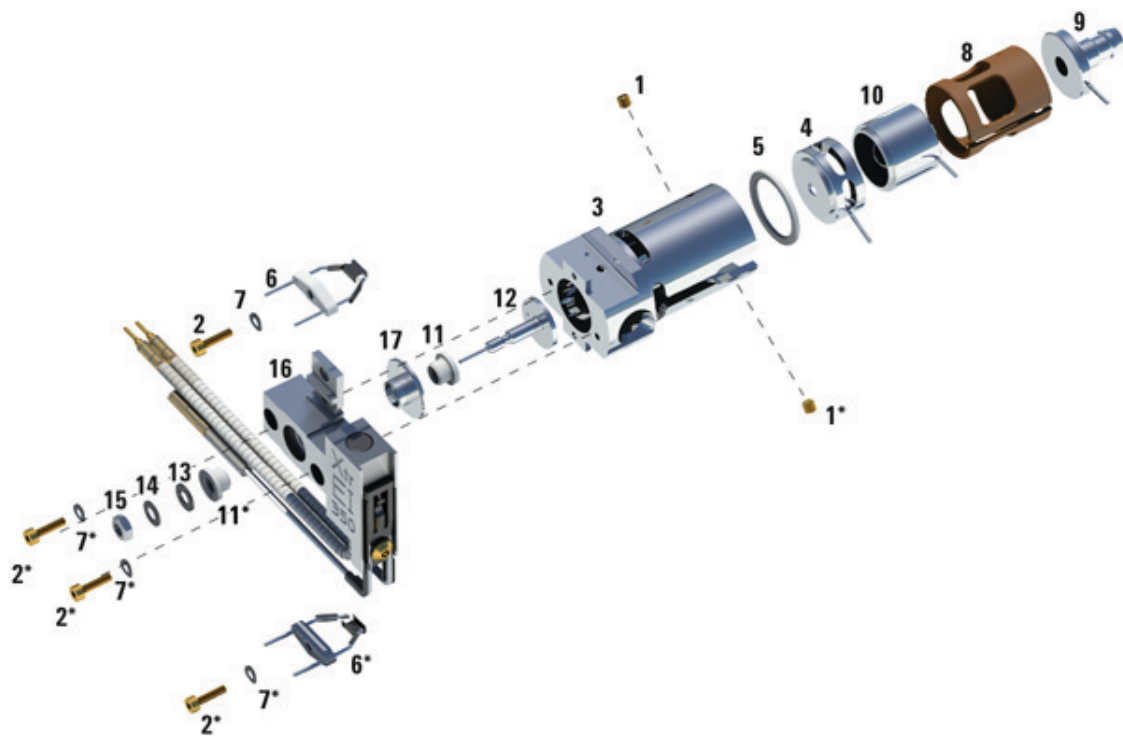

Figure 23 Disassembling the EI ion source
- 3 Separate the source heater assembly from the source body by removing the two screws. The source heater assembly includes the source heater, repeller, and related parts. (See Figure 23.)
- 4 Disassemble the repeller assembly by removing the repeller nut, washers, ceramic insulators and repeller. (See Figure 23.)
- 6 Pull the lenses out of the source body and separate the lens insulator, ion focus lens, extractor lens, extractor lens insulator, and entrance lens. (See Figure 23.)
Table 17 Parts list for EI ion source (Figure 23)
Table 17 Parts list for EI ion source (Figure 23) (continued)